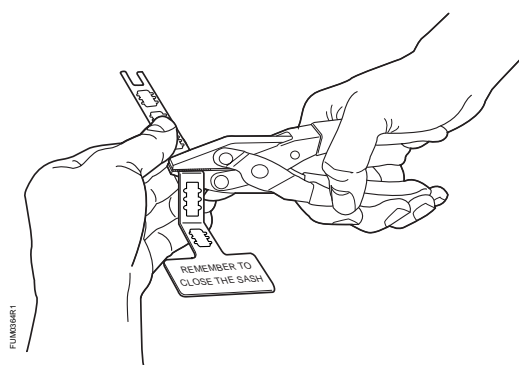

Figure 21. Second Linkage Bend.
7. **Bend 2**—Bend the linkage down toward the sashes at a 45-degree angle 1/2 inch from Bend 1. (Figure 21).